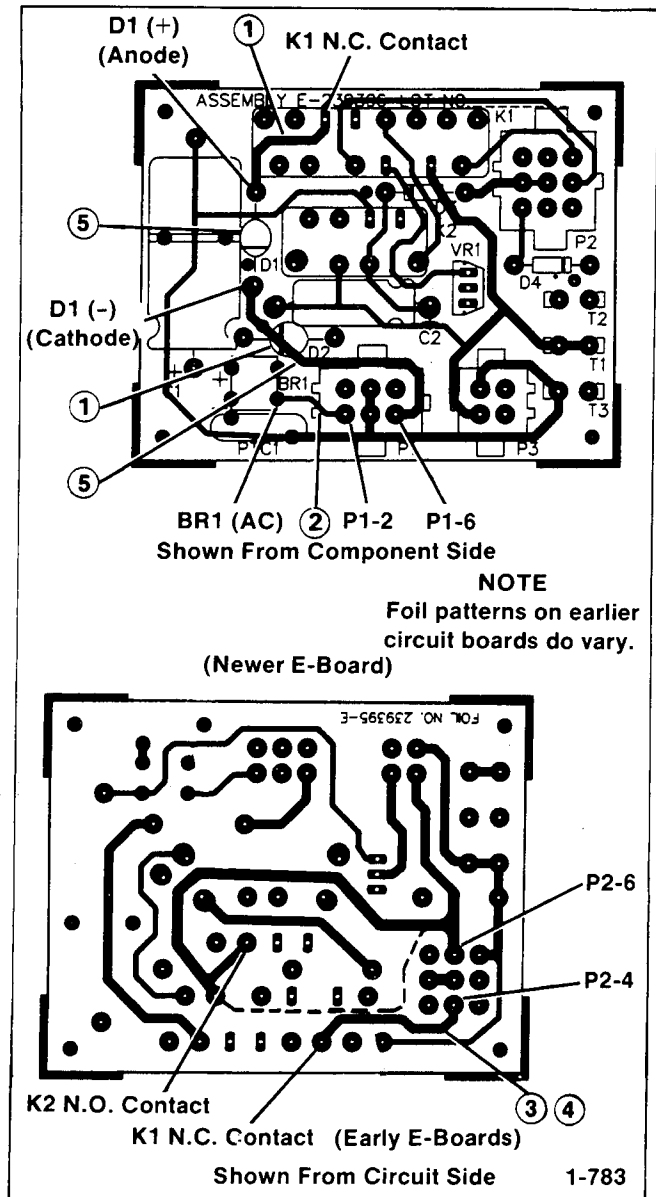

Figure 7-7. Circuit Board Foil Damage Locations
If controller circuit board — 239396 has failed due to foil damage, determine and correct the cause prior to replacing circuit board and attempting start-up. Controller circuit board — 239396 is susceptible to foil damage if subjected to the following conditions. Recent circuit board revisions should provide adequate circuit board protection against most of these possible conditions. See Figure 7-7 for circuit board foil damage locations.
Foil damage between P1-6 and D1 (+) (anode) and/or D1 (-) (cathode) and K1 N.C. contact caused by auxiliary winding 55-66 shorted to ground. Reference 1 on Figure 7-7. Possible problem on A-, B-, and C- circuit boards. E- circuit boards make use of higher current carrying diodes. This problem may also occur if the 8 Amp. fuse in lead 55 is changed to one of a higher rating. Test stator windings with an ohmmeter using "Stator" section. If this test proves inconclusive, it will require testing with a megohmmeter using the following procedure.
Foil damage between BR1 (AC) and P1-2 caused by auxiliary winding B1/B2 shorted to ground. Reference 2 on Figure 7-7. Possible problem on A-, B-, and C- circuit boards. E- circuit boards are equipped with PTC1 to reduce the likelihood of circuit board damage. Test stator windings with an ohmmeter using "Stator" section. If this test proves inconclusive, it will require testing with a megohmmeter using the following procedure.
Foil damage between K1 N.C. contact and P2-4 caused by battery positive (+) lead shorting to ground through P2-4 when start switch is activated. Reference 3 on Figure 7-7. This can occur due to improper starter solenoid connections, battery positive (+) lead contacting starter solenoid coil negative (-) terminal (P2-4) because of terminal bending, or by a short during "jumpstarting."
Foil damage between K1 N.C. contact and P2-4 caused by starter solenoid component failing. Reference 4 on Figure 7-7.
D1 and/or D2 diodes damaged caused by shorted rotor or brush retaining tool not removed after disassembly. Reference 5 on Figure 7-7. Possible problem on A-, B-, and C- circuit boards. E- circuit boards have higher current carrying diodes. To test these components, see "Rotor" and/or "Brushes" sections.